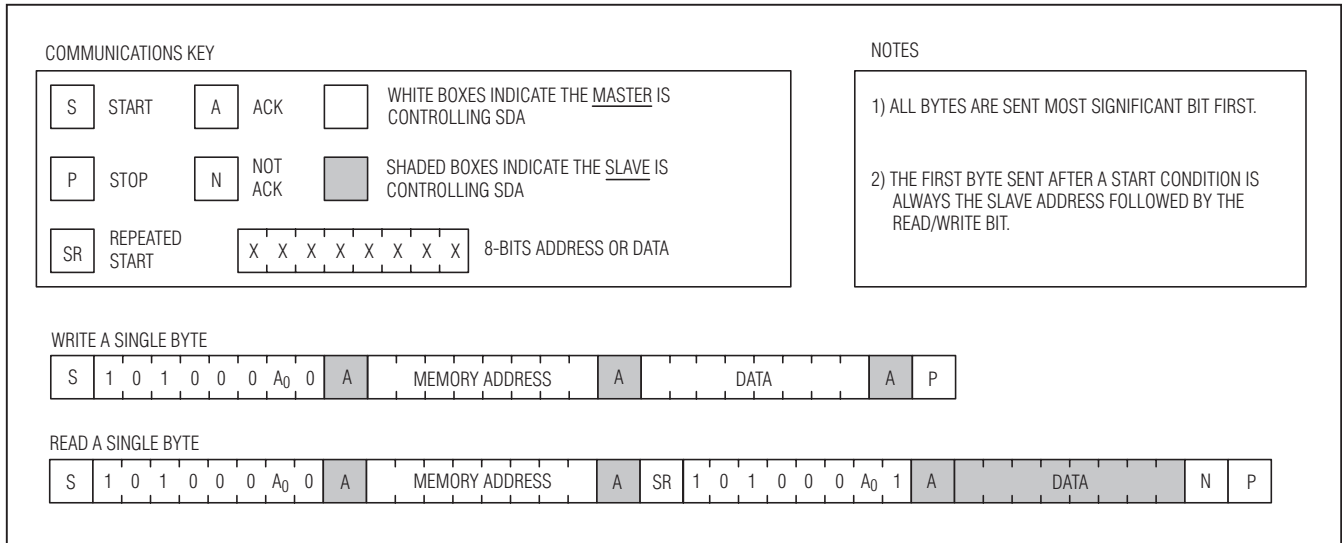

Figure 12. I2C Communications Examples
**Writing a Data Byte to a Slave:** The master must generate a start condition, write the slave address byte (R/W = 0), write the memory address, write the byte of data, and generate a stop condition. Remember the master must read the slave's acknowledgement during all byte write operations. See Figure 12 for more detail.
**Reading a Data Byte from a Slave:** To read a single byte from the slave the master generates a start condition, writes the slave address byte with R/W = 0, writes the memory address, generates a repeated start condition, writes the slave address with R/W = 1, reads the data byte with a NACK to indicate the end of the transfer, and generates a stop condition. See Figure 12 for more detail.